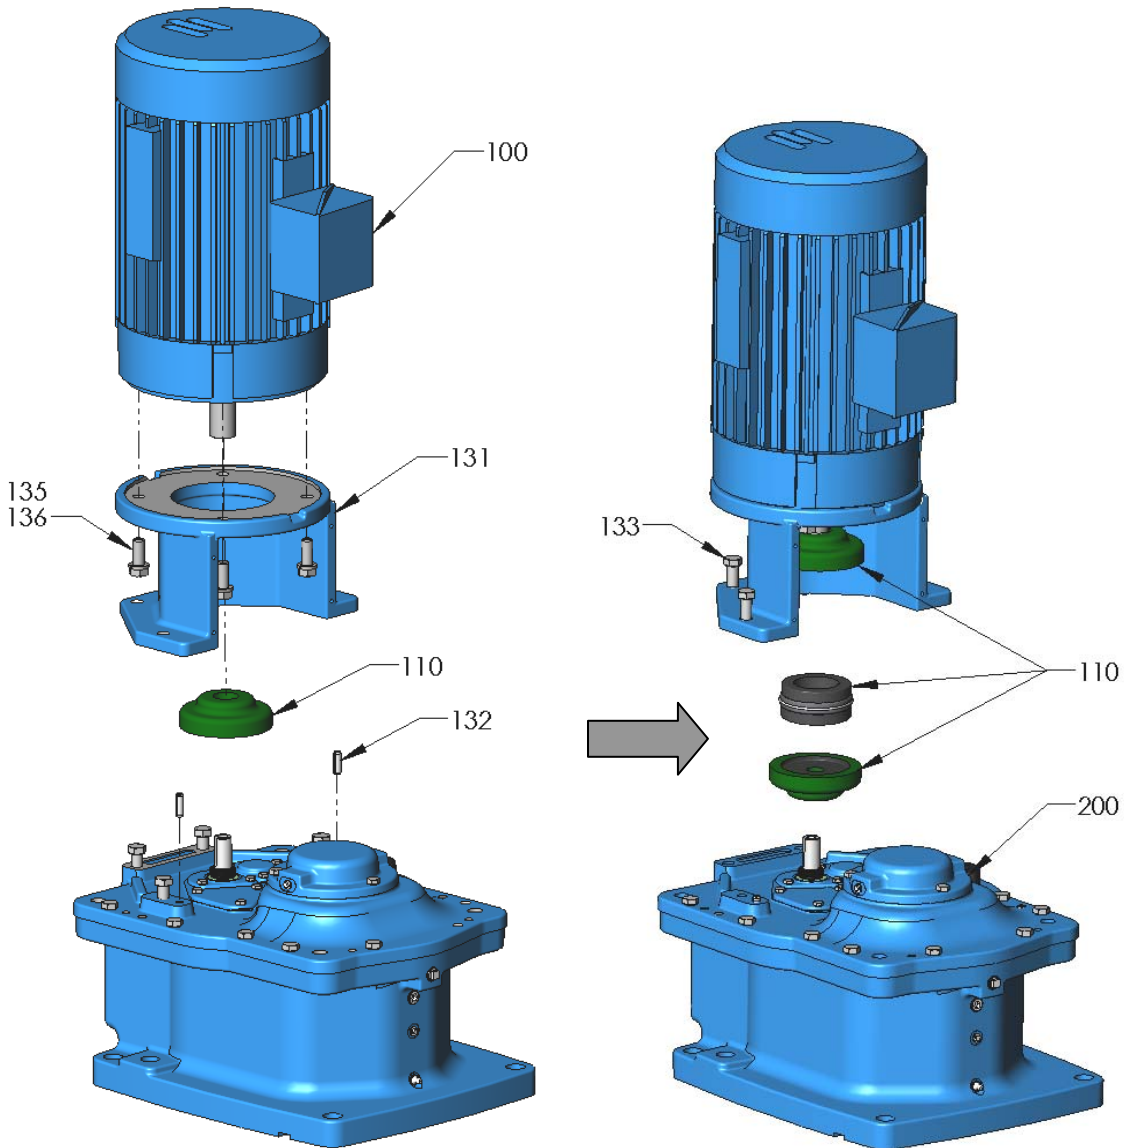

Figure 17. Model 20 GT – Motor Mounting
5. **For GT (Parallel Drive)** see Figure 17, page 36: If not already installed by the factory, install alignment pins [132] onto the gearbox lid. Using a hoist system, lift motor/adaptor assembly above gear drive and lower onto the alignment pins. Install bolts [133] to assemble the motor adapter onto the gear drive.